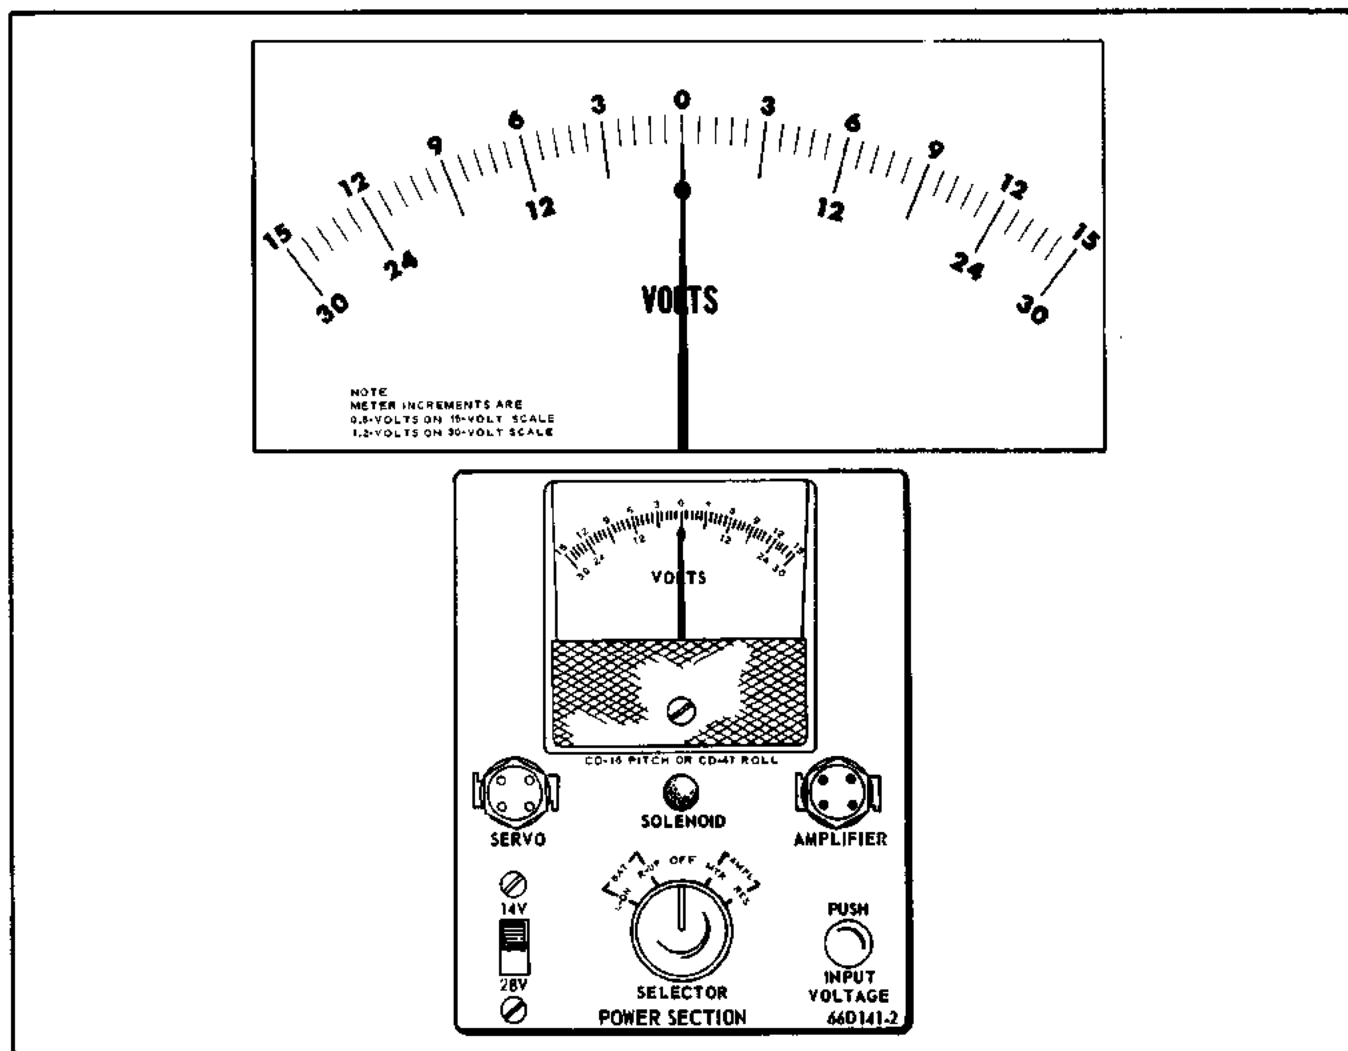

Figure 5-3. Power Section Test Box
13. Observe voltmeter on Power Section Test Box and record meter reading. (Refer to Figure 5-3 for enlarged view of voltmeter.)